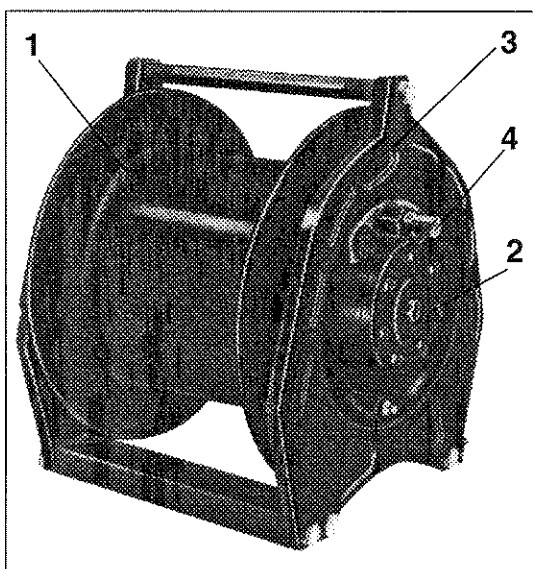

fig. 35
The winch (fig. 35) is made of a drum (1) that can rotate by means of a hydraulic engine (2), on a structure (3) fixed on the crane (i.e. under the outer boom). The rotation of the drum on which the cable winds is achieved by a hydraulic motor (2) connected to the circuit by means of hoses; in case of fittings or hoses brake the stop of the rotation is guaranteed by a safety check valve (4). A parking brake integrated to the motoreducer group prevents the rotation on the drum (held of the winch load in position), when the control function is not activated (distributor lever in neutral position).